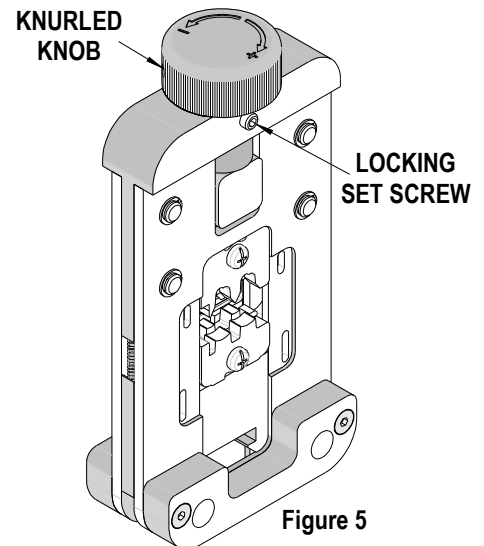

Figure 5
1. Loosen the locking set screw located just below the knurled knob at the top of the Power Crimp Head. See Figure 5.